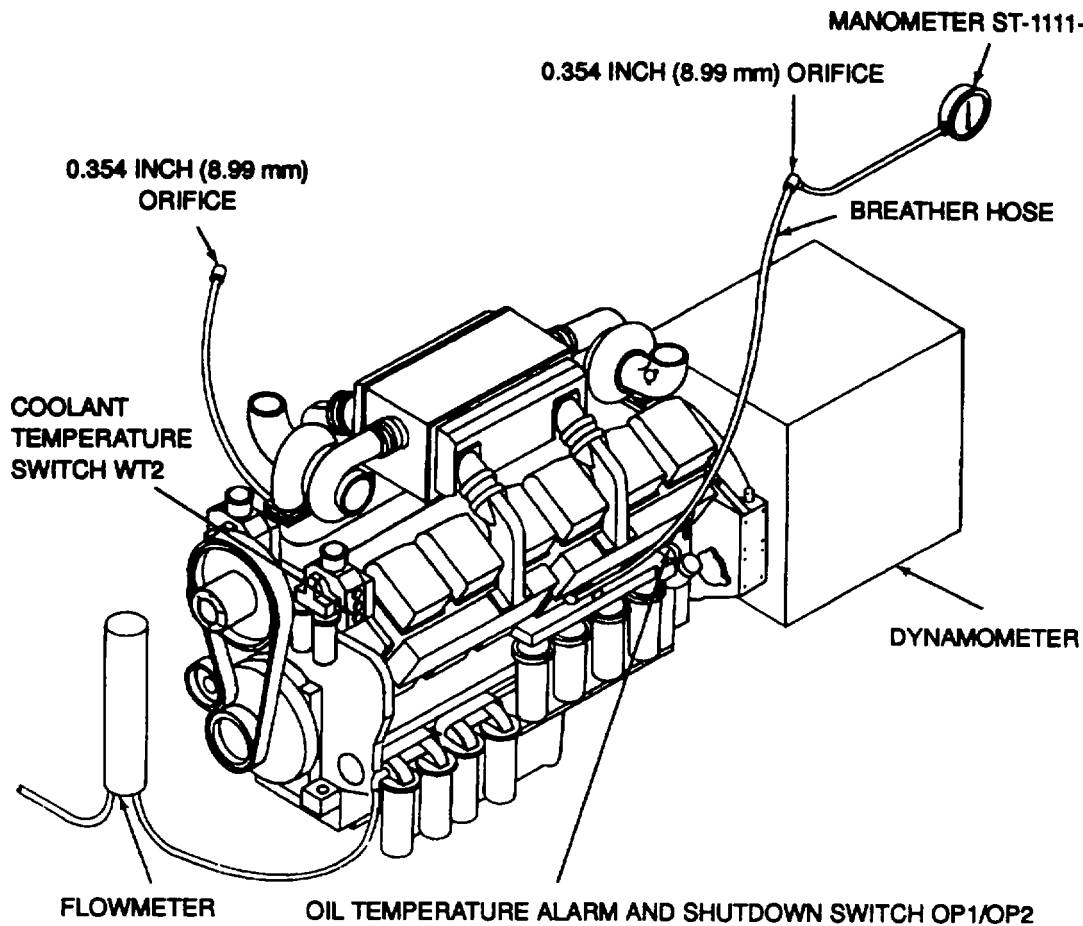

Figure 12-1. Test Equipment Installation Points
- a. Mount the engine to the dynamometer, and connect the test cell instruments and equipment (Figure 12-1). Minimum instrumentation and equipment shall be as follows:
- (1) Dynamometer MIL-D-45808.
- (2) A manual engine speed control system (see paragraph 12-15).